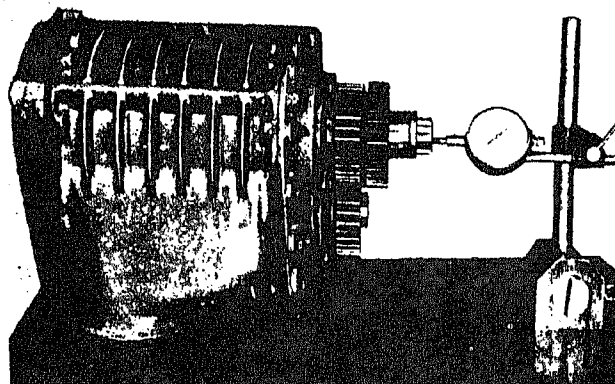

Fig. 10-4-2. Checking end play
3. Check rotor shaft end play. Fig. 10-4-2.